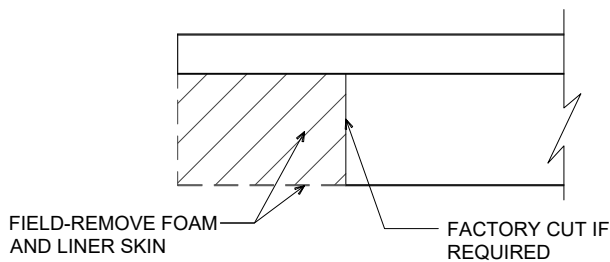
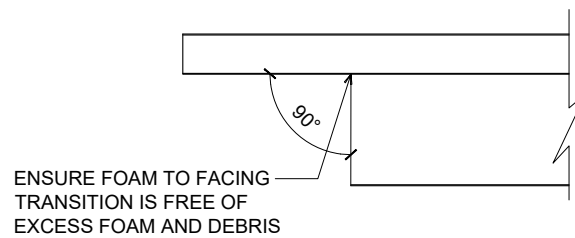

FIGURE 9
FIGURE 9A
- 13.6 ALL WEATHER INSULATED PANELS THAT INCORPORATE END LAPS WILL ARRIVE AT THE JOB SITE WITH THE FOAM AND LINER FACE IN PLACE. THE LINER FACE OF THE UPPER COURSE PANEL WILL HAVE A FACTORY SAW CUT 3" TO 6" FROM THE END OF THE PANEL (SEE FIGURE 9). REMOVE THE METAL AND FOAM AT THE END OF THE PANEL. CAREFULLY REMOVE ANY FOAM THAT REMAINS ON THE METAL SKIN TO ENSURE A POSITIVE AIR AND WATER INFILTRATION SEAL. ENSURE PANEL TO EXTERIOR FACING TRANSITION IS FREE OF EXCESS FOAM AND DEBRIS (SEE FIGURE 9A) TO ALLOW PANEL ENDS TO JOIN TOGETHER TIGHTLY FOR FOAM-TO-FOAM CONTACT.